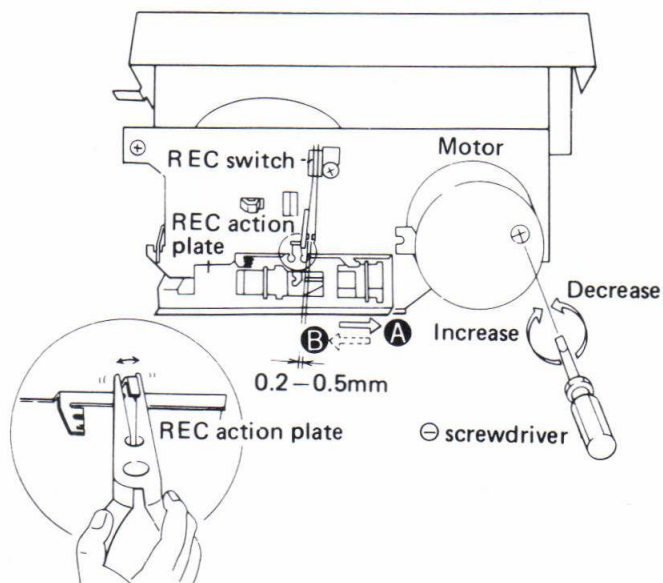

Fig. 11-2 Tape speed and REC switch adjustment
2. Play back the 3kHz portion of the STD-301 test tape. At the beginning, the frequency should lie within the 3000Hz~3010Hz range, and may be adjusted by turning the semi-fixed resistor located in the capstan motor adjustment hole as shown in Fig. 11-2.